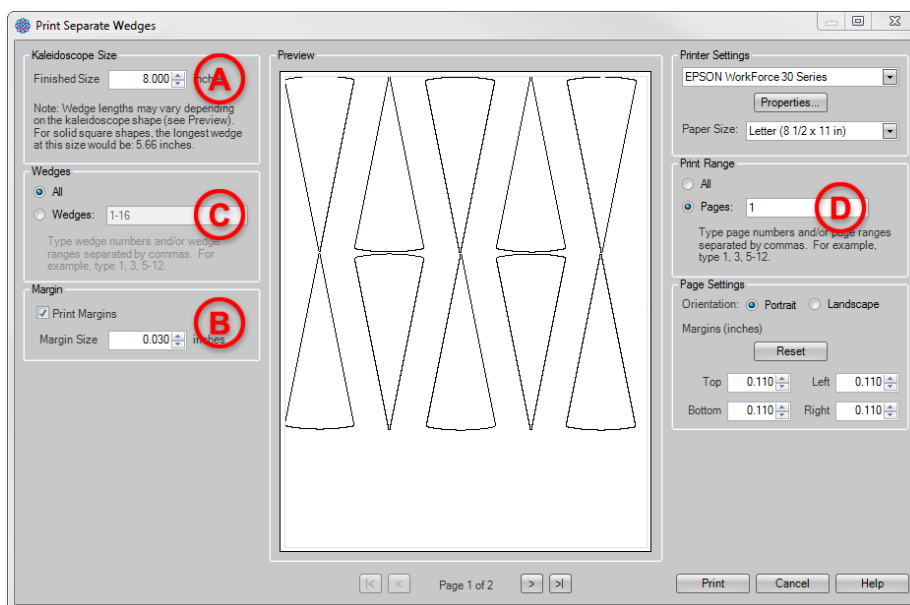

Figure 7
6. Print the wedges. **File>Print Separate wedges** (or click on the little down arrow next to the printer icon in the Toolbar and choose **Print Separate wedges**.) (Fig. 7)